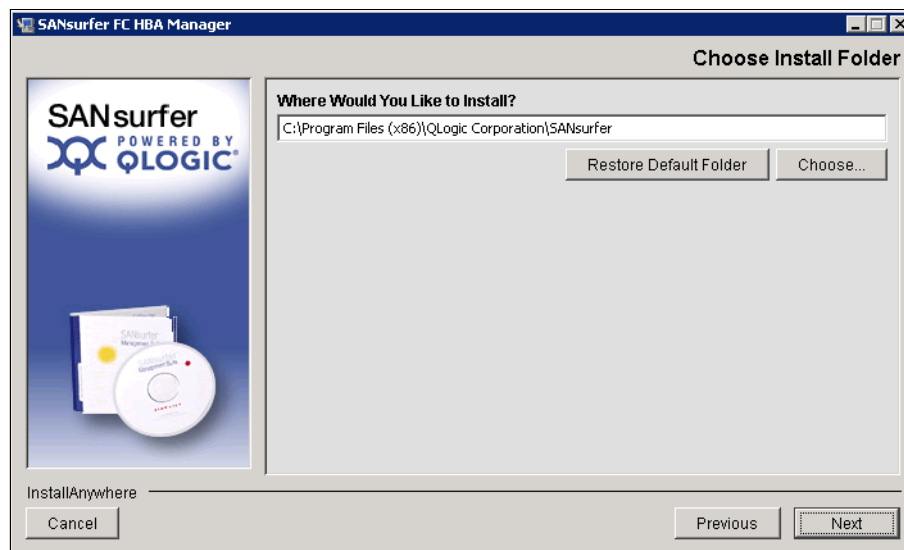

Figure 7-66 Choose Install Folder panel
- In the Choose Install Folder panel (Figure 7-66), select the path to install SANsurfer, and then click **Next**.